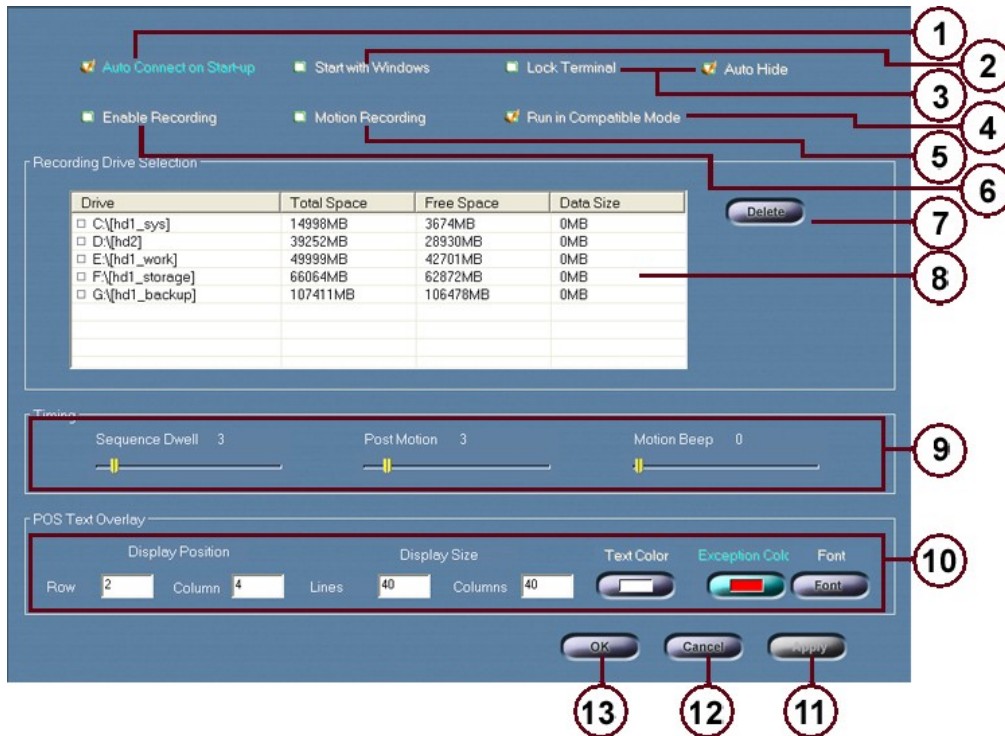

Figure 6-5 Options Window
- (12) **Options Button.** Click to access the Options Window.
- (13) **Exit Button.** Click to exit Remote Center.
- (14) **Audio Button.** Click to toggle audio on/off. When audio is toggled on check/uncheck **Microphone Box** to enable/disable microphone.
(15) **Current Recording Status Indicator Bar.** Displays the current recording status for each camera. Click an indicator to begin recording for the corresponding camera (when the Enable Recording Box is checked (Figure 6-5 (3))).